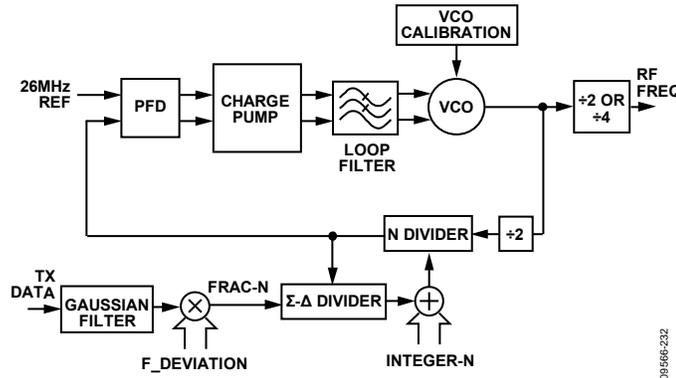

Figure 40. RF Frequency Synthesizer Architecture
A fully integrated RF frequency synthesizer is used to generate both the transmit signal and the receiver’s local oscillator (LO) signal. The architecture of the frequency synthesizer is shown in Figure 40.